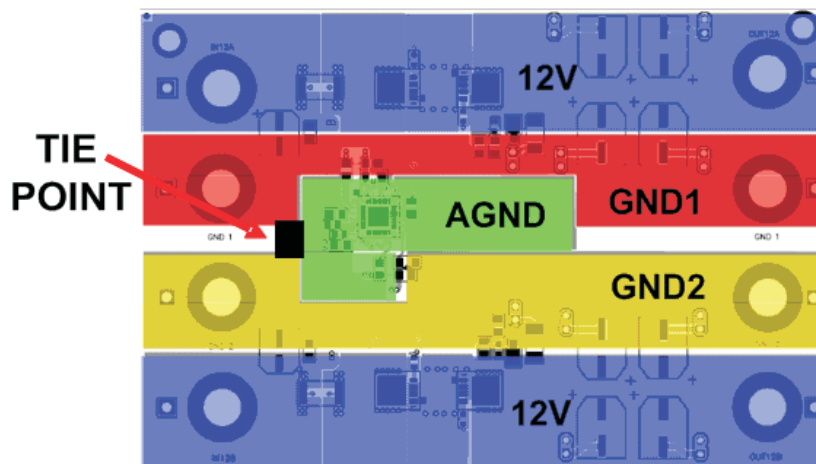

Figure 26.
7. The board should use a single point ground scheme. The current return path for both channels should be isolated from each other as much as possible and tie together at a single point. This helps to reduce ground bounce and false turn offs in one channel when there is a fault in the other channel. Also, sensitive analog grounds (such as the ground connections of  $R_{MONX}$  and  $C_{TX}$ ) should be run separate from the power path grounds. This analog ground must also tie to the two power path grounds at a single point. Figure 26 shows the top layer routing of the TPS2456A EVM which uses a single point ground scheme. Each major power path, the analog ground, and the single point tying them together is highlighted in the figure.